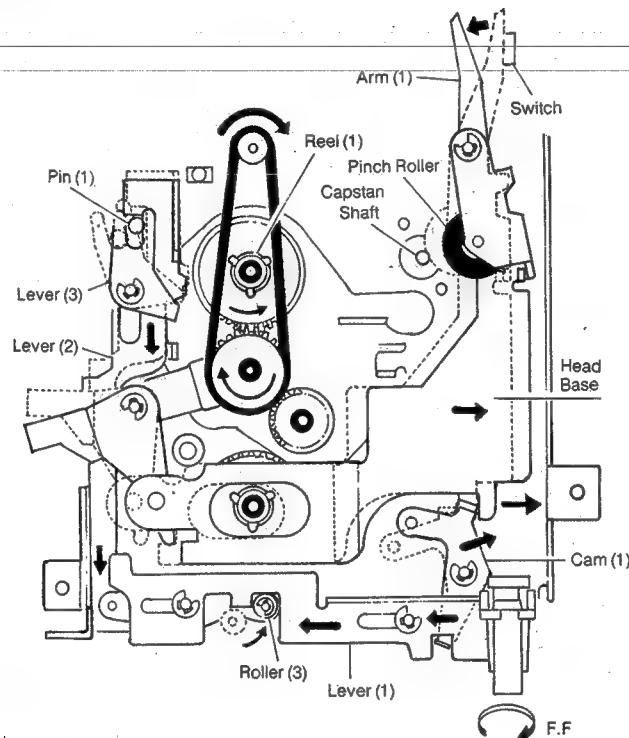

Fig. 16
• F.F. Mechanism (see Fig. 16)
1. Turn the F.F./Rewind knob to F.F. to make Lever (1) move left and be locked by Roller (3). Lever (2) interlocked with Roller (3) is pulled together with Lever (3).
2. With Lever (3) pulled, Pin (1) interlocked with the eject cam is moved inward. With Pin (1) moving inward, the pushing of Lever (2) (directly connected with the eject button) will not cause cassette ejection, but instead release F.F. movement only.
3. Also, with Lever (1) moving left, Cam (1) moves in the arrowed direction and causes the Head Base to retreat and the Pinch Roller and Capstan Shaft to separate.
4. The movement of the Head Base causes Arm (1) to turn ON the F.F./Muting Switch to permit turning of motor at high speed.